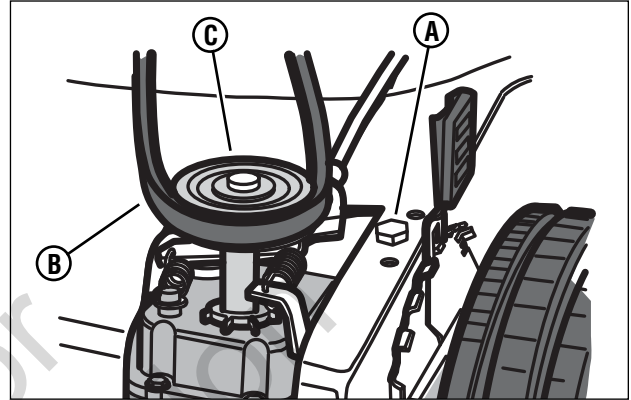

Figure 18: Loosening the belt tension bolt
3. (SP2265 & NSP2265 Only): Loosen the belt tension bolt (A, Figure 18).